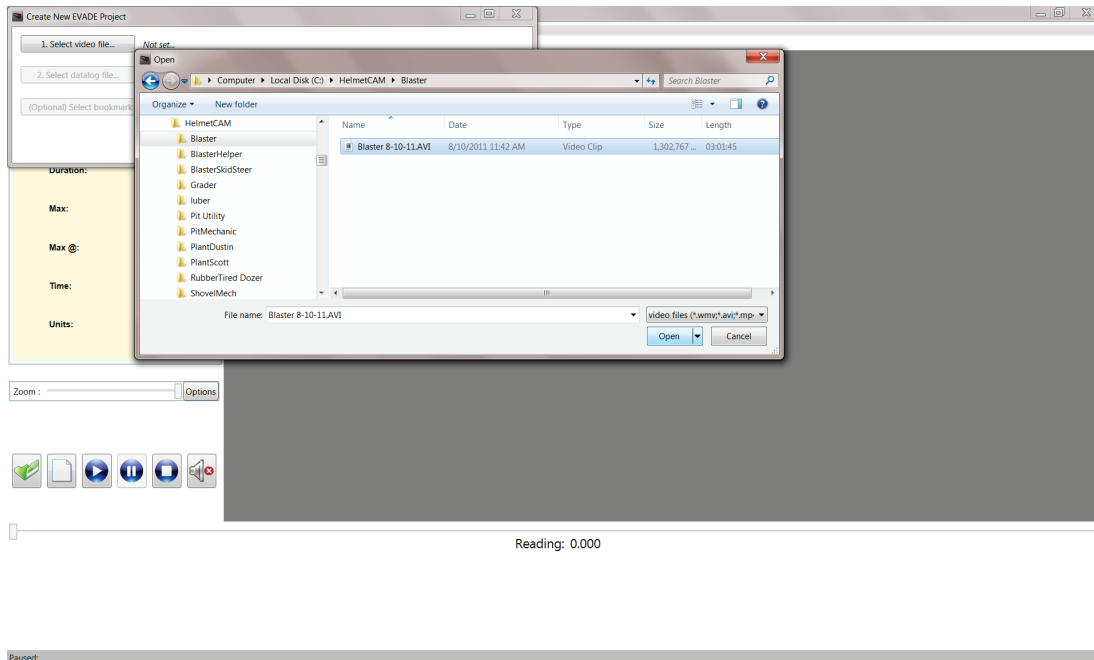

Figure 24. The New Project command dialog box showing drive directories.
2. Click the **Select video file...**, the first highlighted selection button, to launch an **Open** dialog box (Figure 24). This dialog box allows selection of the video files in *avi*, *mp4*, or *wmv* format. The location of these video files can be selected by scrolling through the file listing on the left side of the dialog box and selecting the desired directory. The data can be located in a directory on any drive: for example, C:\ drive, CD rom drive, network drive, etc. It should be noted that poor video playback may occur in the EVADE software when the data is located on a network drive. EVADE will provide a notification of this circumstance (Figure 25); click **OK** to clear the message. Once the video file is selected, click **Open** to proceed. The next step **Select datalog file** will be highlighted. Selecting **Cancel** terminates the **Select video file** process and returns the user to the beginning of the **Create New EVADE Project** procedure.